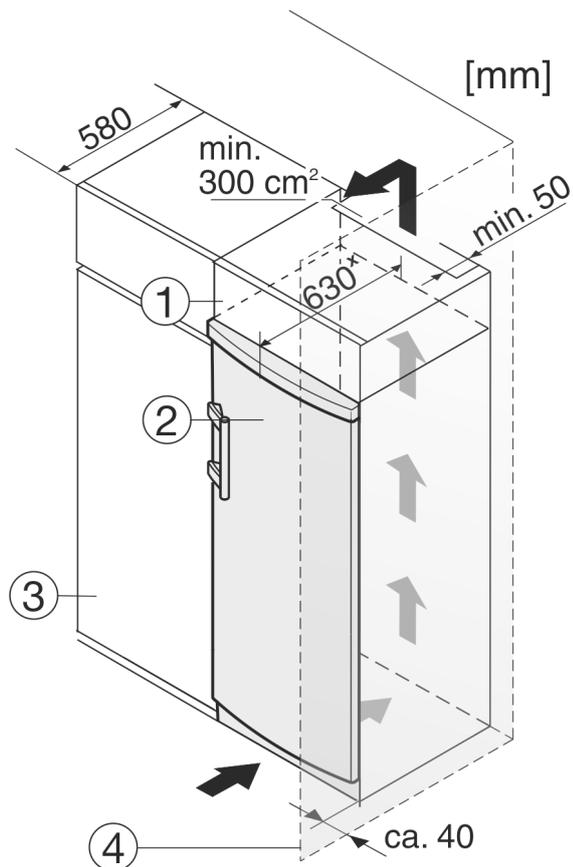

Fig. 10
- (1) Top cupboard
- (2) Appliance
- (3) Kitchen cabinet
- (4) Wall
The appliance can be built into kitchen units. A top cupboard Fig. 10 (1) can be added above the appliance in order to bring the appliance Fig. 10 (2) up to the height of the fitted kitchen units.
If you are integrating the appliance into a kitchen unit (max. depth 580 mm) you can install it right next to the kitchen cabinet Fig. 10 (3). The appliance measures 34 mm * at the side and 50 mm * at the centre in relation to the front of the kitchen cabinet.
If you are installing the appliance with the hinges next to a wall Fig. 10 (4), the distance between the appliance and the wall must be at least 40 mm. This is how far the handle protrudes when the door is open.